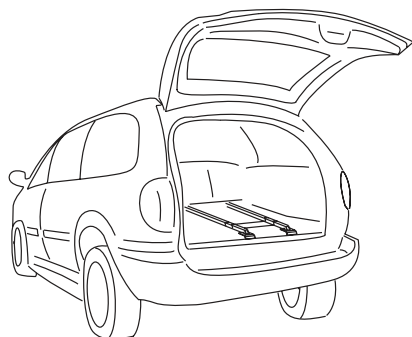

Figure 19-1
8. With BA-02 installed in rear cargo area, examine floor for area to install leg assembly. [Figure 19-1]